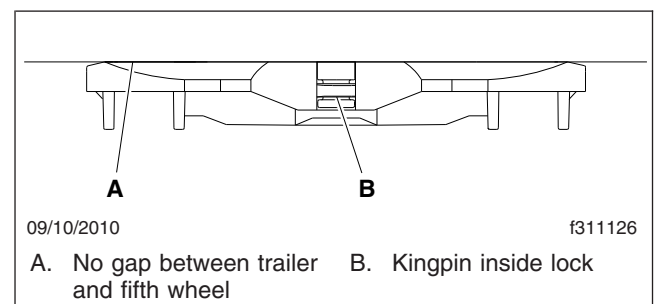

Fig. 17.4, Coupling Inspection
- Perform a coupling inspection, checking that there is no gap between the bottom of the trailer and the fifth wheel, and that the kingpin is securely locked. See Fig. 17.4.
10. Apply the tractor parking brake, then perform a physical check for positive kingpin lock, and that there is no gap between the trailer and the fifth wheel. See Fig. 17.4.